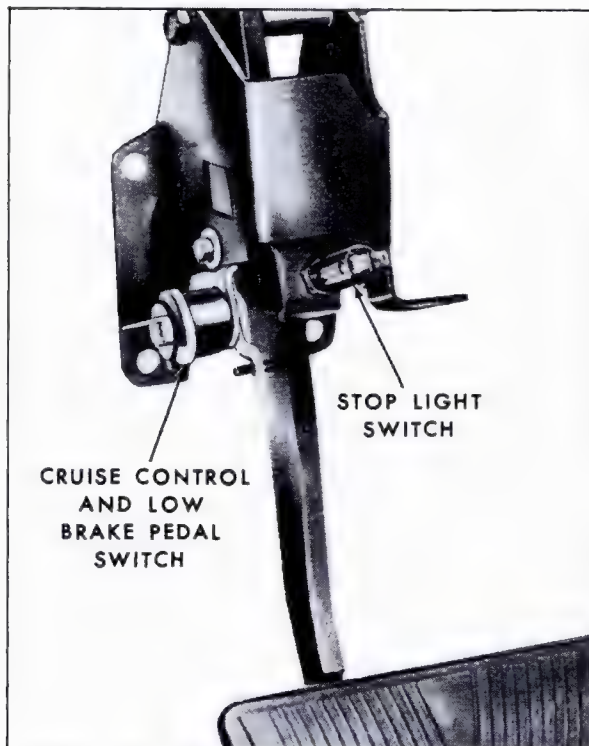

Fig. 5-16 Stoplight Switch Location
2. Remove front locking nut from switch, Fig. 5-16.
2. Install front locking nut, Fig. 5-16.